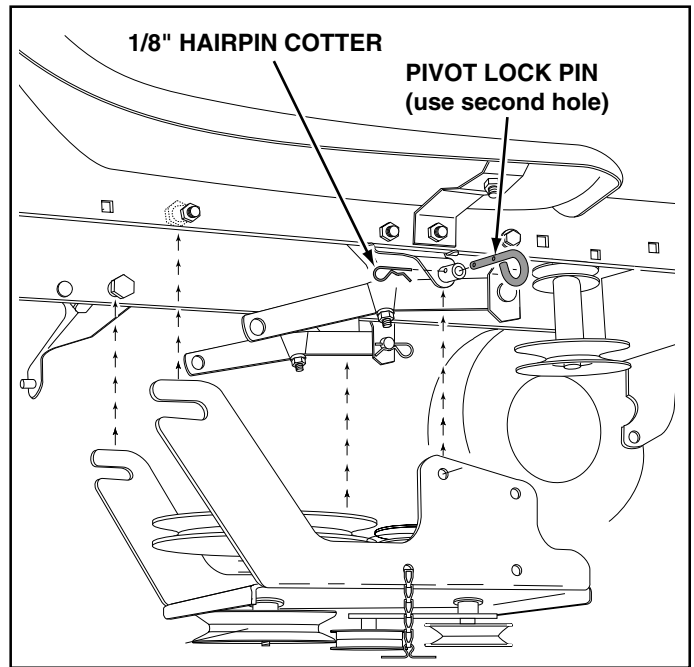

FIGURE 13 RIGHT SIDE VIEW
- Attach the clutch/idler assembly to the tractor frame as follows. Hook the assembly's notched arms onto the two shoulder bolts you assembled to the inside of the tractor frame. Lift the front of the assembly and attach it to the R.H. and L.H. hanger brackets using two pivot lock pins and 1/8" hairpin cotters. See figure 13.